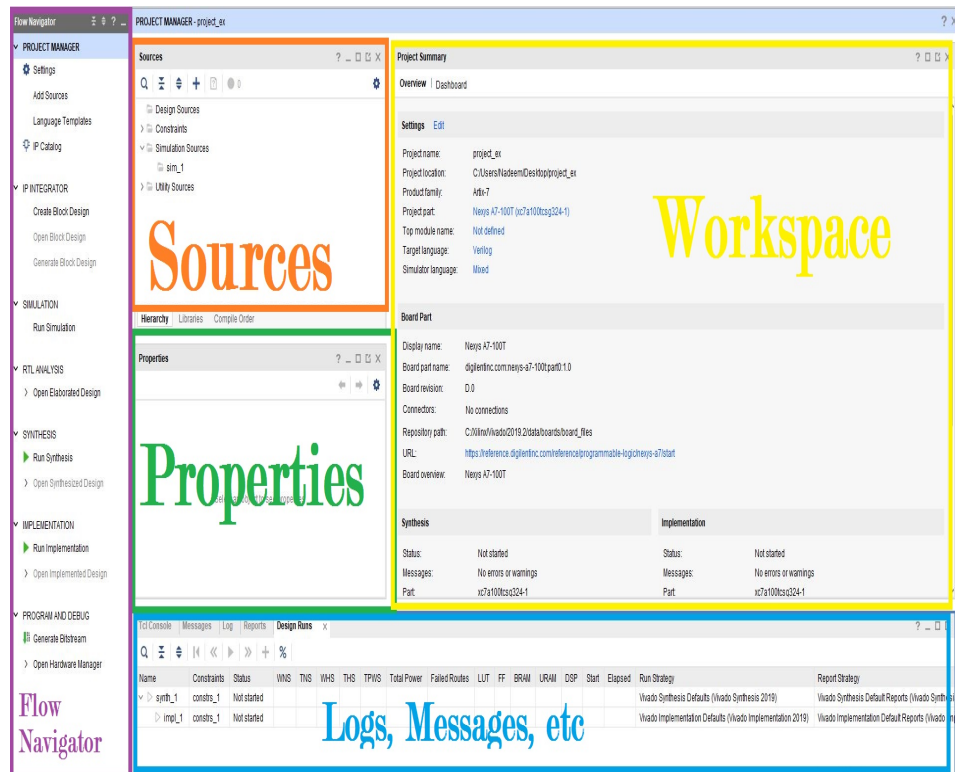

Fig. 3.5: Vivado Design Suite Window
5. Then the *Project Summary* will appear. Click on *Finish*. After this, the project will be initialized and window will appear (Fig. 3.5). Project Summary will contain information about the project settings, the board used along with the number of errors and warnings that encountered when synthesis, implementation and bit-stream generation have been completed. Clicking on these will show their details in the *Logs, Messages* window.
1. Click on *Add sources* from the project manager bar. (Fig. 3.5). A dialog box will appear. Select *Add or create design sources* and click *Next*.